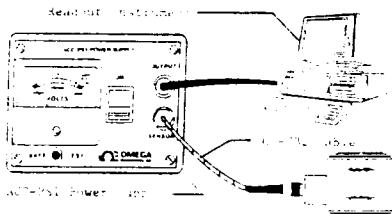

FIGURE 4 - Electrical Interconnections
4. Connect sensor to power unit as shown in Figure 4, using an ACC-CB2 coaxial cable. Tighten cable locking rings by hand.